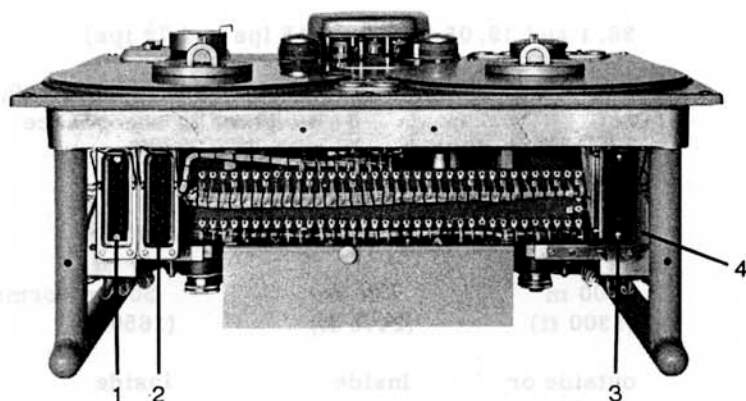

Fig. 1 Connections to the tape transport
4.1. Connection terminals (see Fig. 1)